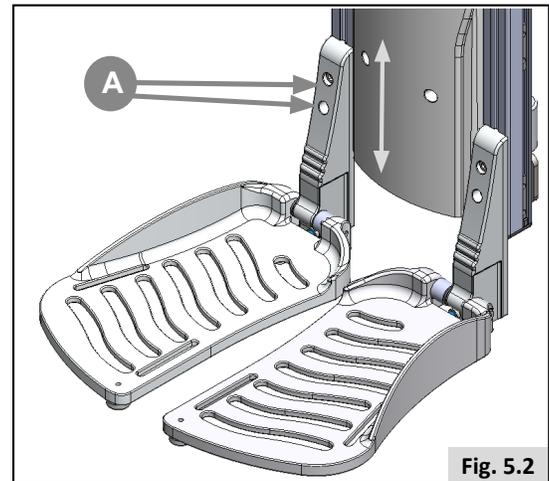

Fig. 5.2
- Loosen the 2 bolts (A) with a 5.0 mm Allen key, Figure 5.2.